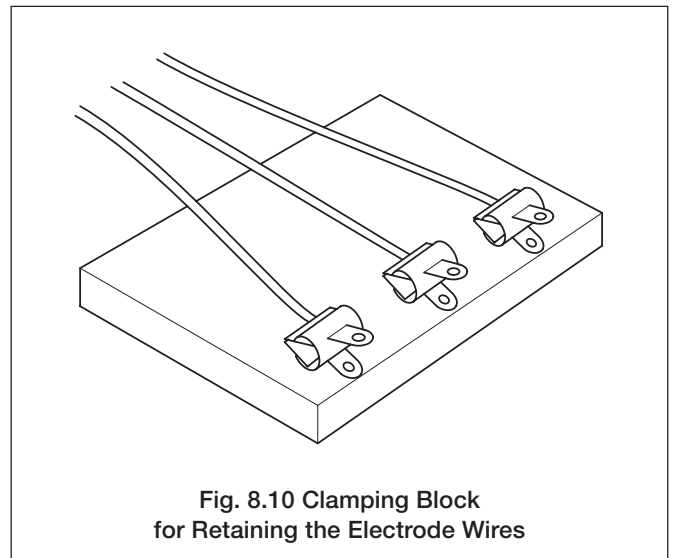

Fig. 8.10 Clamping Block for Retaining the Electrode Wires
**Note.** To temporarily retain the uncoiled lead ends when refitting the ceramic insulators use a simple clamping block constructed from bulldog clips – see Fig. 8.10.